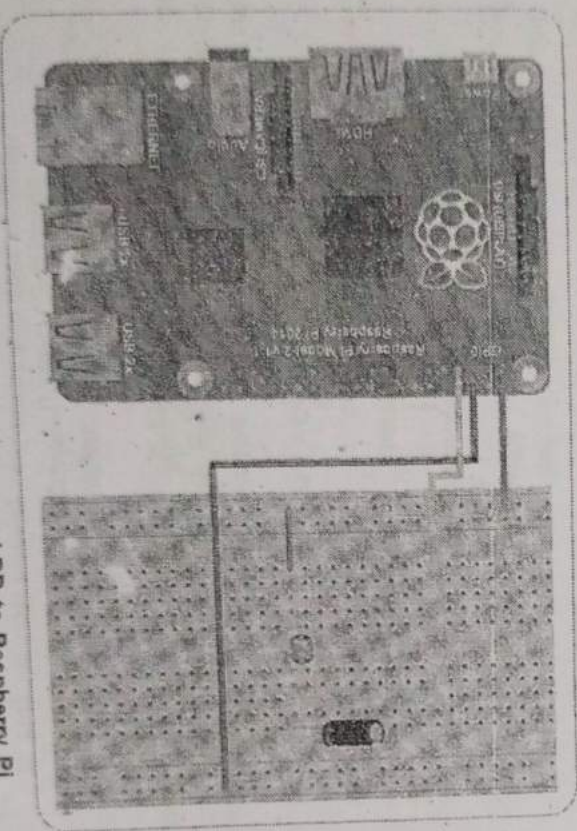

Fig. Q.19.1 : Diagram of connecting an LDR to Raspberry Pi
• Fig Q.19.1 shows diagram of connecting an LDR to Raspberry Pi.